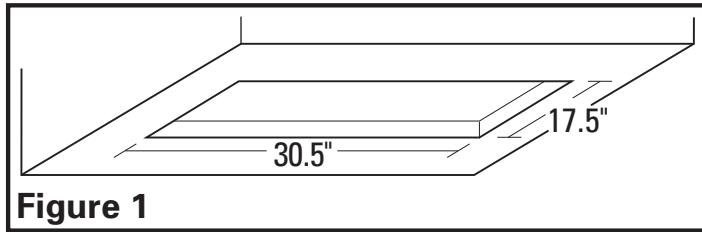

Figure 1
1. Cut a hole 30" wide by 17" deep into the cabinet or canopy the power unit will be mounted into (Figure 1):